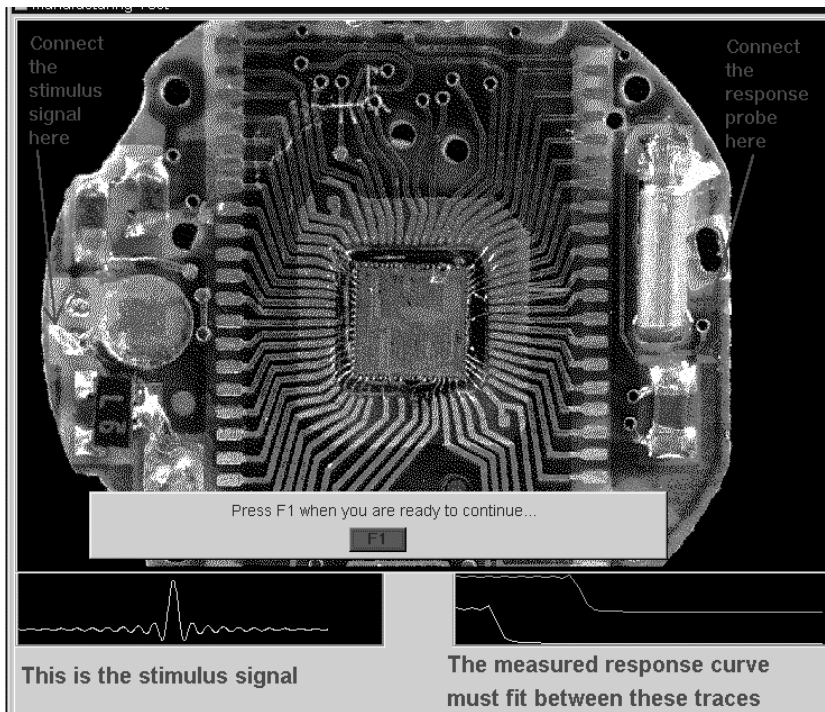

Figure 12.10. Mfgtest.vee illustrating the circuit under test
6. Examine the “run” program first step; it should look like Figure 12.10.